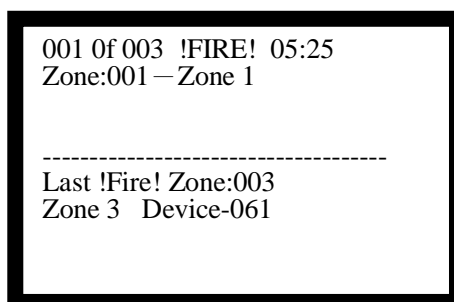

Fig. 5-3
1. Fire alarm screen is shown like Fig. 5-3 when in zone display mode.